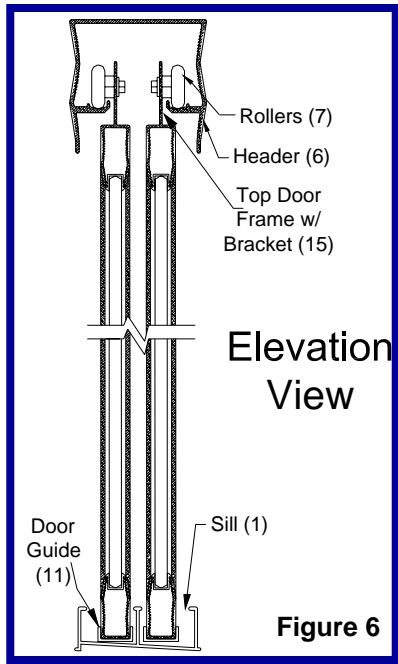

Figure 6
- Close the panels and adjust the vertical edge of the panels with the jambs. Adjust the inside slider as low as possible to reduce the gap between the bottom of slider and sill without dragging on the track. (Adjust rollers by loosening the screw in the roller with a 1/4" box-end wrench, without removing completely, adjust the panel by sliding the screw in the slot and re-tighten the screw.) *(Note: When screws are loose, support the panel so it does not fall and break.)* **(See Figure 6)**